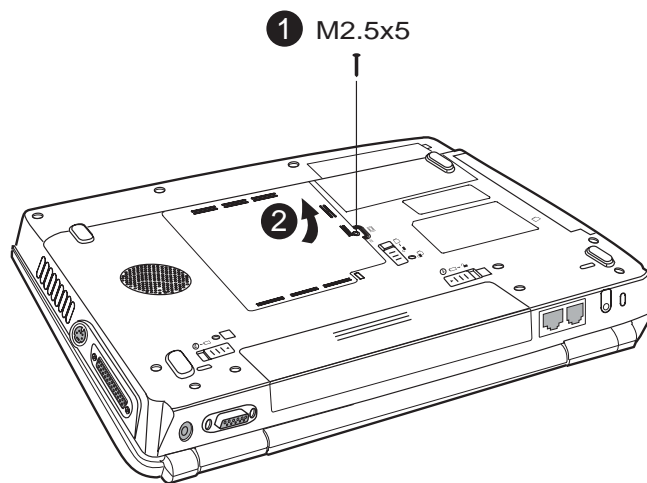

Figure 4-12 Removing the memory module cover
1. Remove the Modem cover. (Refer Figure 4-12)